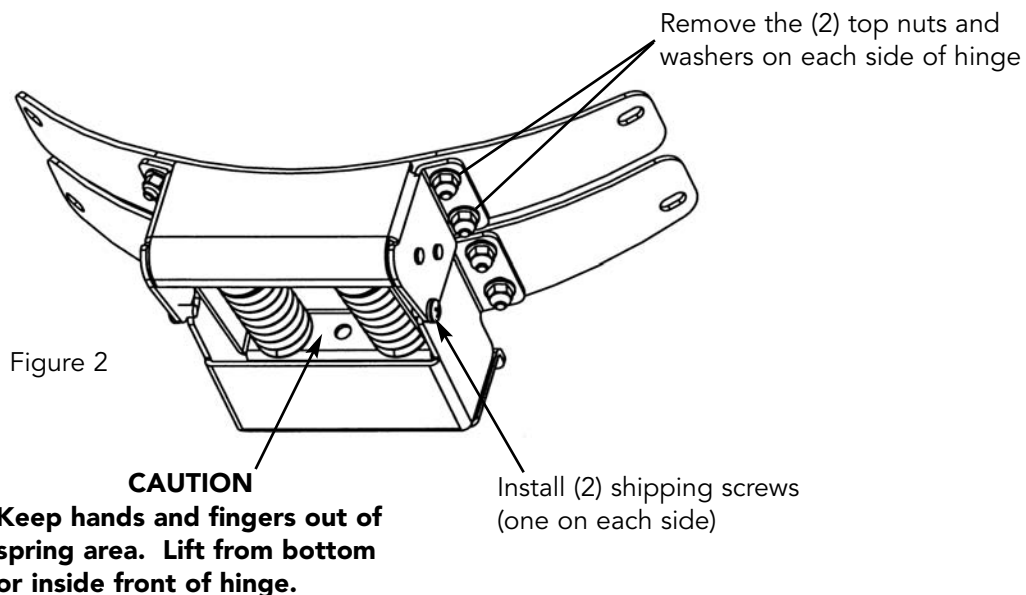

Figure 2
3. Install two (2) shipping screws, (one set on each side). (See Figure 2) Remove teh two (2) top nuts and washers on each side of the hinge mount.